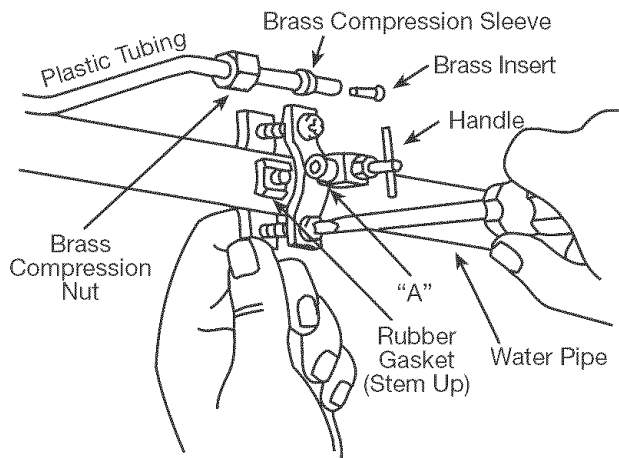

Fig. 19
3. Back out the piercing pin by turning the "T" handle counter clockwise and clamping the saddle valve body securely on the water line with a rubber gasket positioned as shown in Fig. 19. On galvanized or copper pipe over 5/8", first drill a 5/32" diameter hole in the pipe.
4. Turn the handle clockwise until it has pierced the water line and valve is completely closed (Fig. 19).
5. Partially uncoil the tubing. Slide the brass compression nut over the tubing. The threads in the nut must face the tubing end. Place the brass compression sleeve as shown in (Fig. 19). Slip brass insert into end of the tubing.
6. Insert the tubing end into the saddle valve at threaded stem "A" (Fig. 19) as far as it will go. Thread the brass compression nut onto the valve, then tighten gently with a wrench. Take care not to over-tighten the nut.